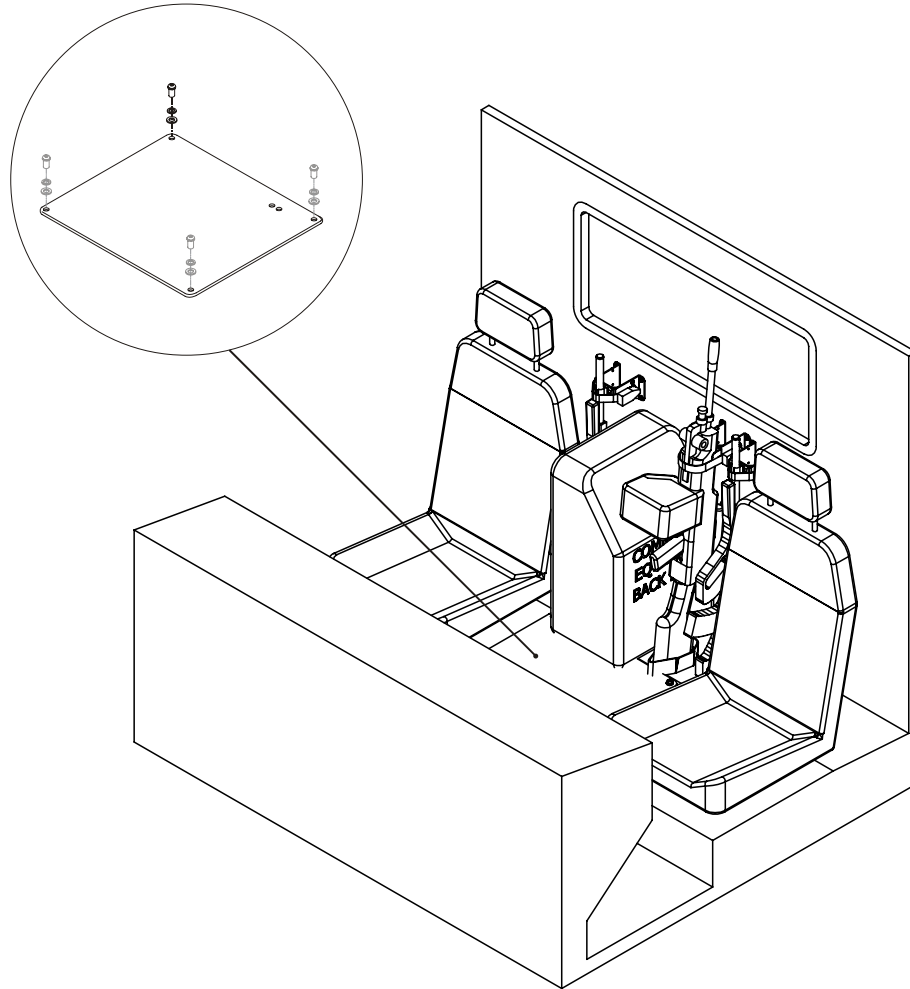

Figure 19 Non-slip Floor Panel
53. Remove Non-slip Floor Panel (Figure 19):